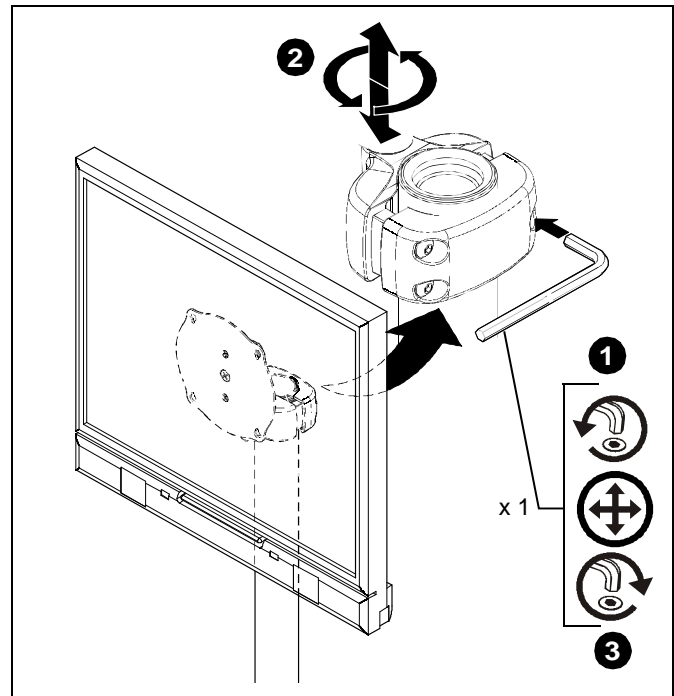

Figure 11
1. Loosen right button head cap screw and adjust display position. (See Figure 11)